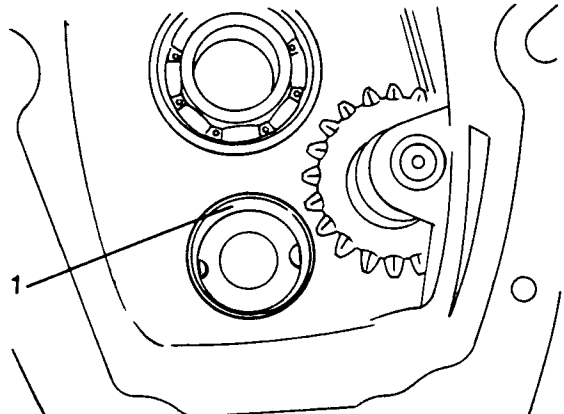

Fig H1.78
- (2) Refer to Fig H1.78. Fit into the gearbox casing the outer rear bearing track (1) of the layshaft, until it butts up against the casing.